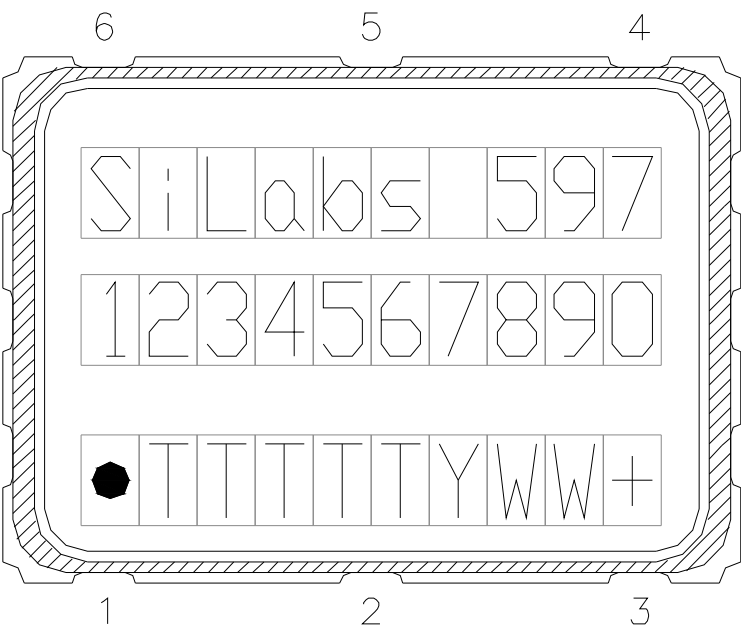

Figure 4. Mark Specification
Figure 4 illustrates the mark specification for the Si597. Table 14 lists the line information.
- Corrected marking information in Figure 4 on page 10.